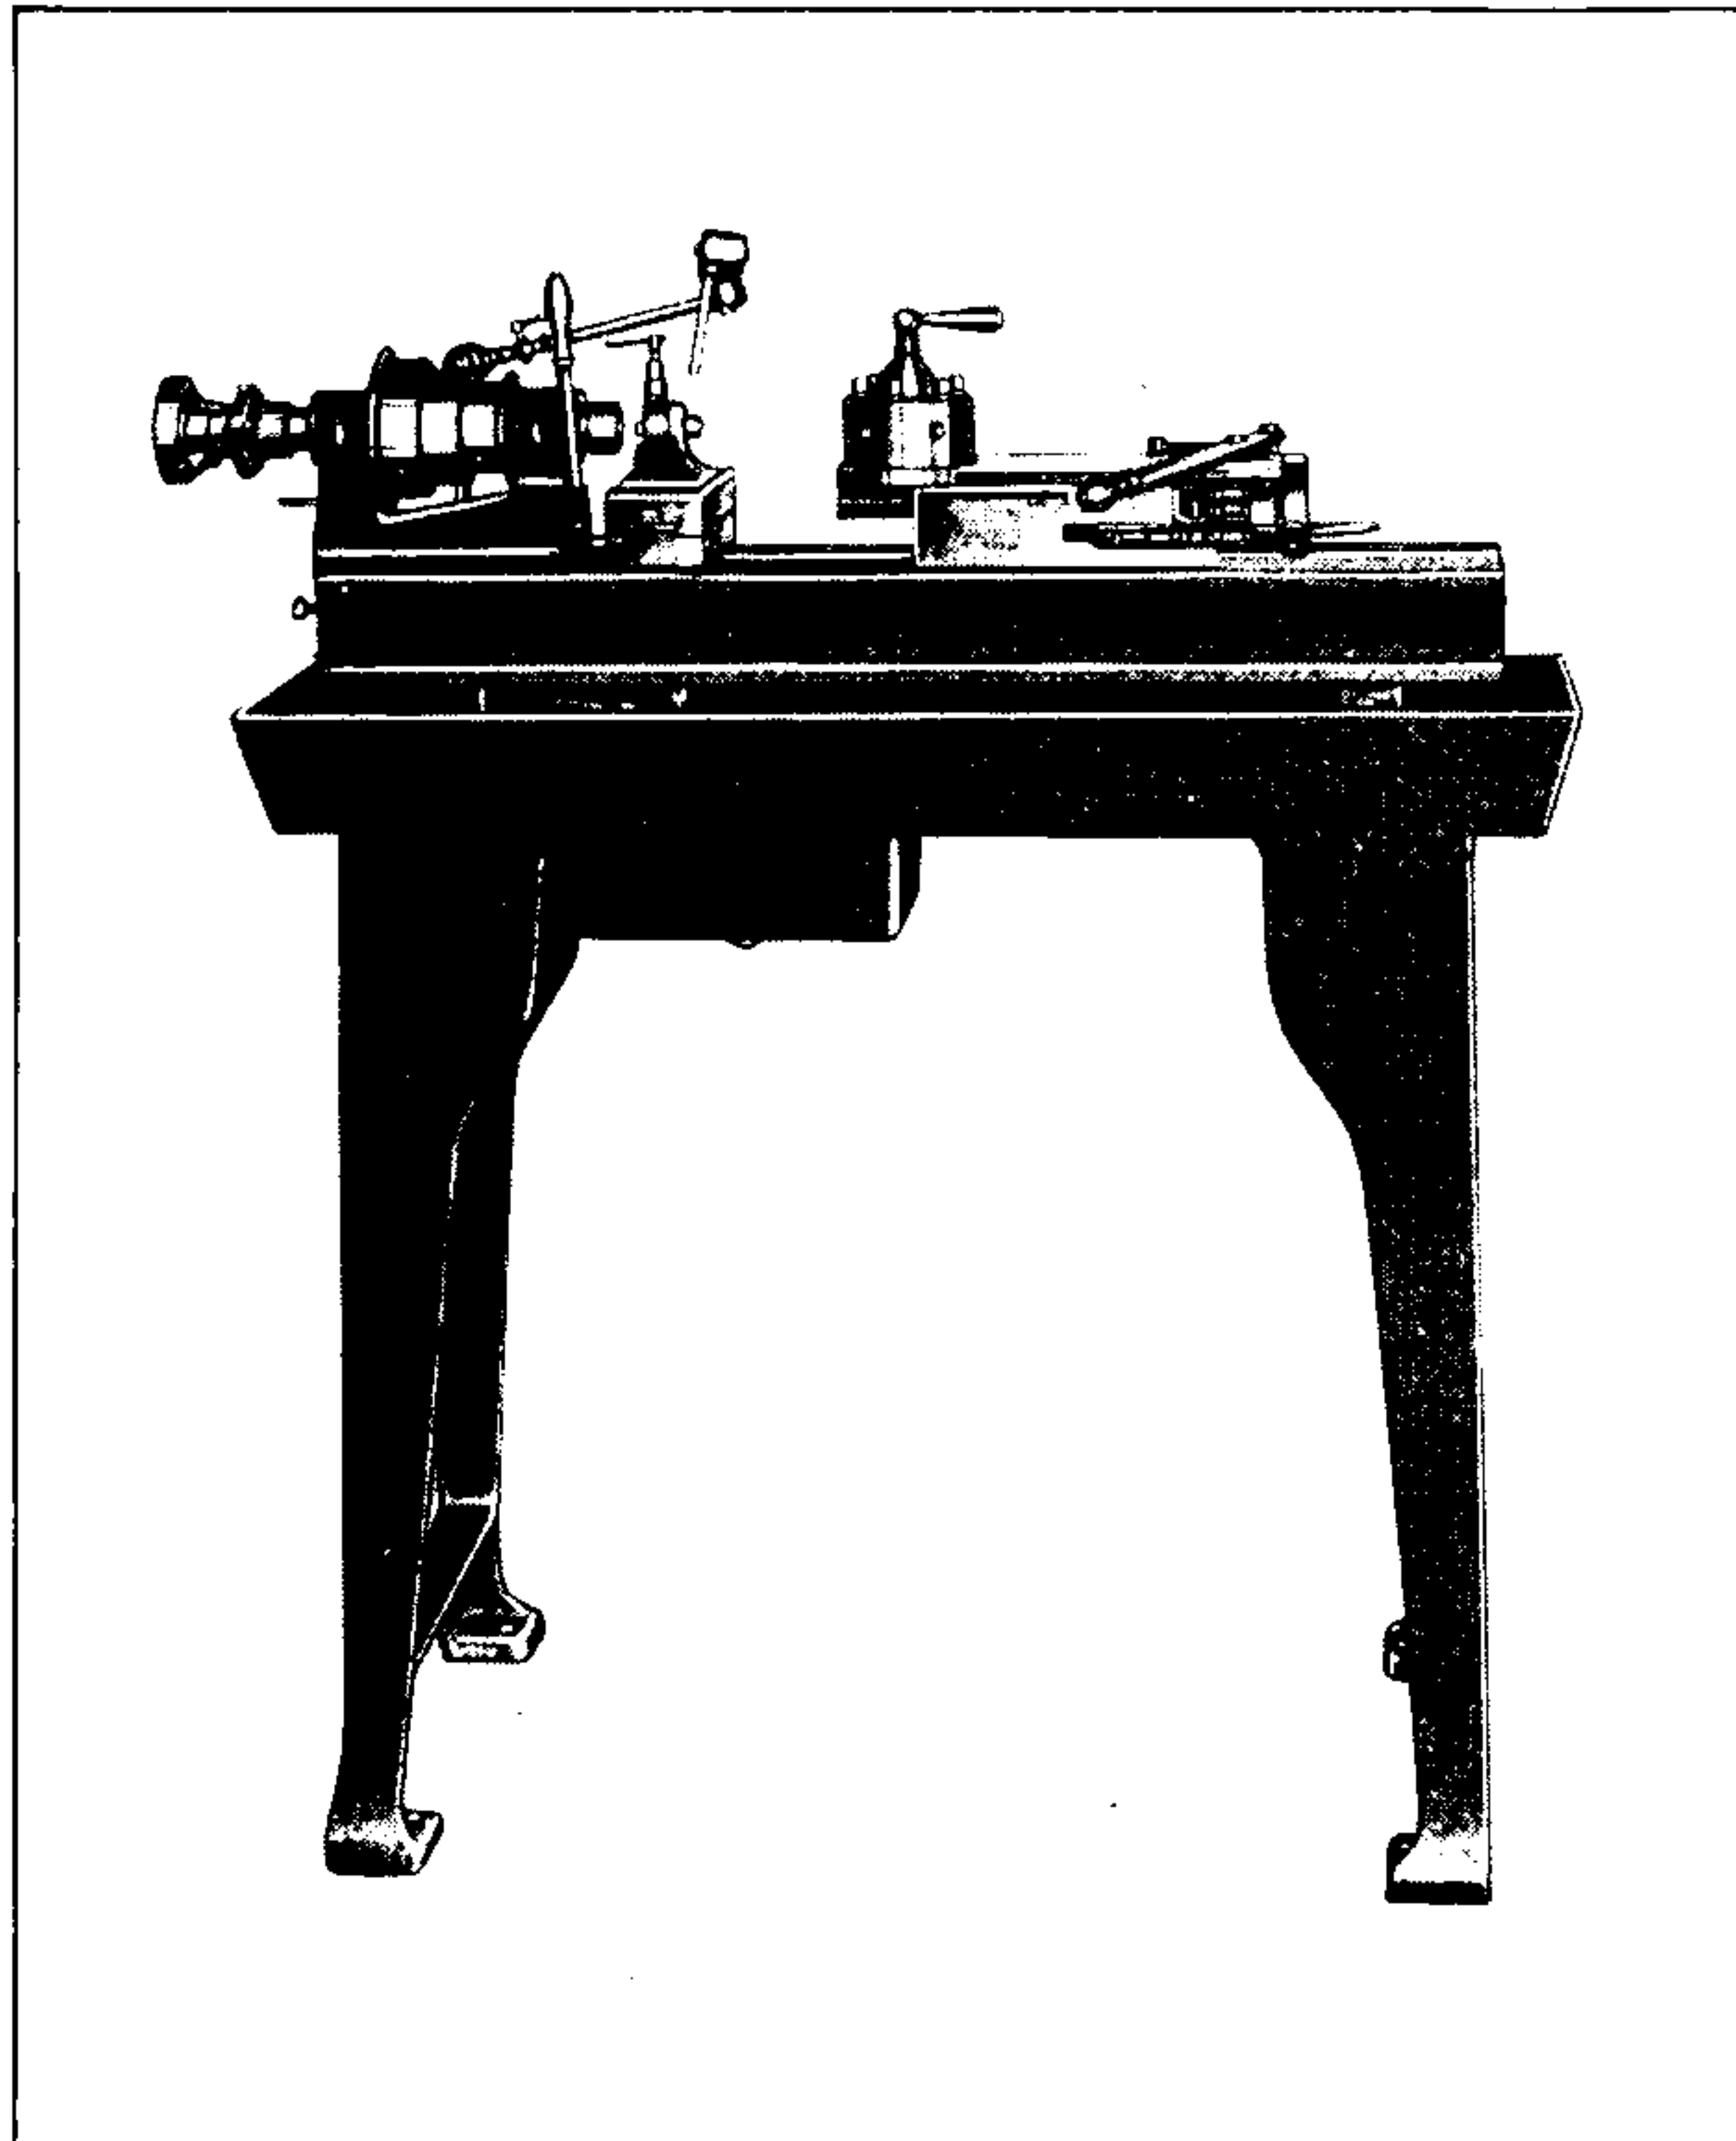

Fig. 43. Lathe with Lever Chuck Closer, Cutting-off and Forming Slide, Turret Attachment-Automatic Indexing, Oil Pan, Floor Legs, Oil Pump and Piping
**THE TURRET ATTACHMENT — HAND INDEXING** is valuable for making quantities of small duplicate parts where several operations are to be performed. A lathe equipped with turret, cutting-off and forming slide, lever chuck closer, and oil pan and floor legs, Fig. 43, is an inexpensive, efficient and accurate hand screw machine of  $\frac{3}{4}$ " round stock capacity.